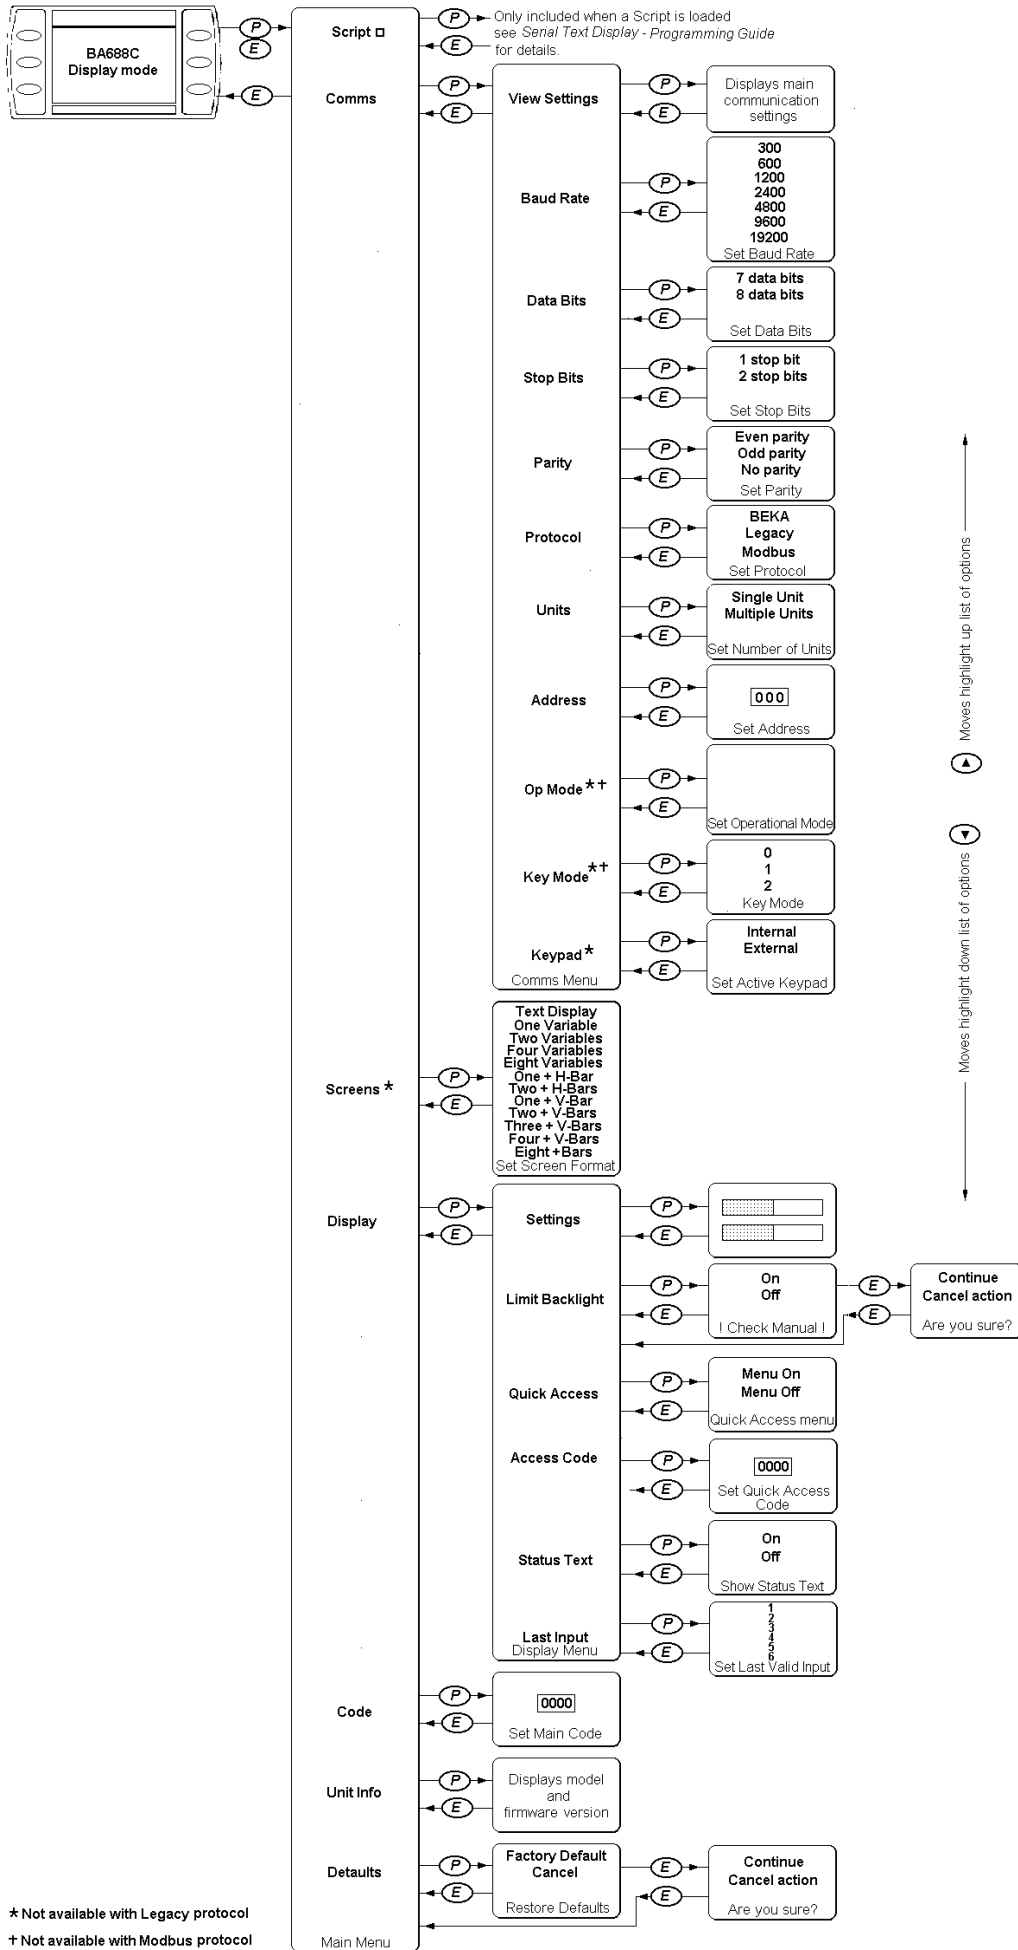

Fig 5 Structure of Configuration Menu
The BA688C is configured via four of the front panel push-buttons. All the configuration functions are contained in an easy to use menu shown in Fig 5. Where necessary the sub-menus contain on-screen prompts to guide the user through each adjustment.
This section provides a brief explanation of each configurable function and should be read in conjunction with Fig 5.
| Structure | Fig 5 | RS232 port | 4.2 Fig 2 |
5. To set the instrument's basic communications parameters enter the configuration menu by pressing the *P* and *E* push-buttons simultaneously. Fig 5 shows the menu structure and navigation.